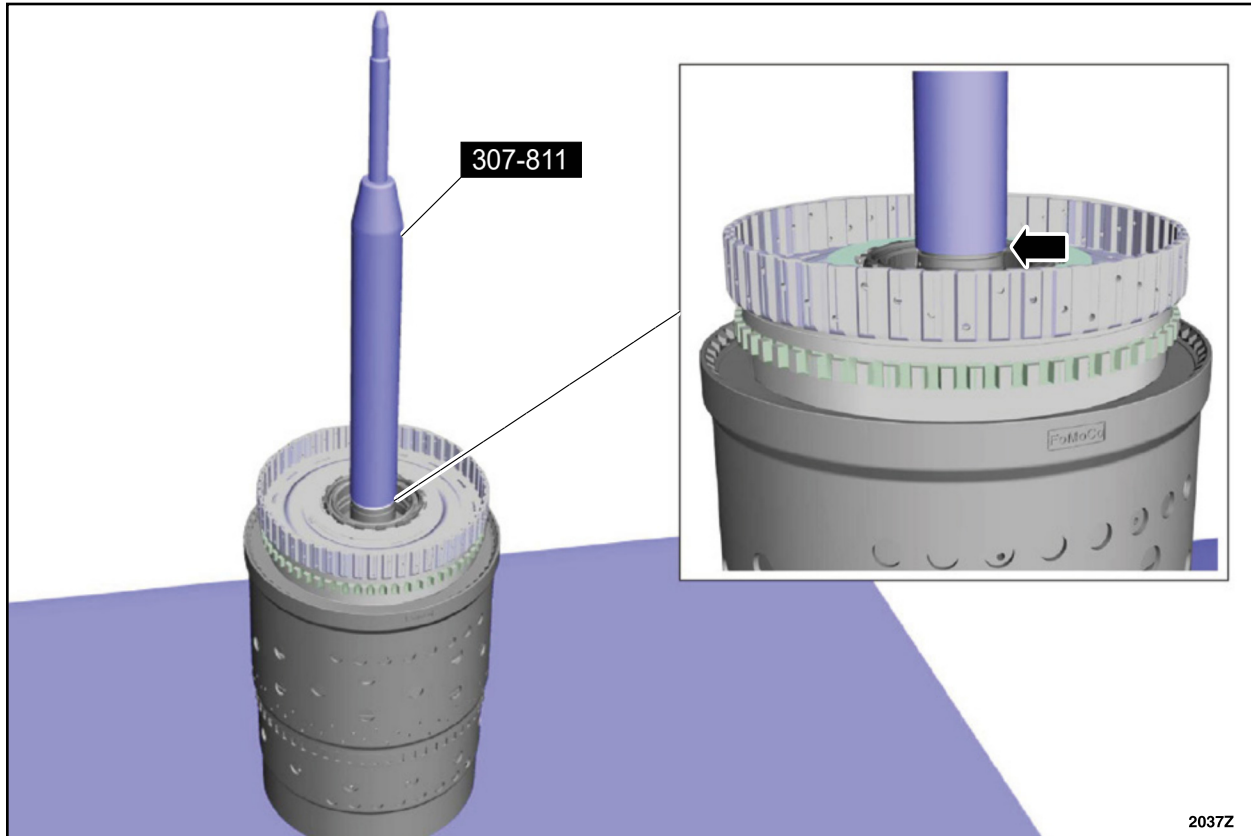

FIGURE 18
21. Install special tool 307-811 and adjust it to align the bottom edge of the tool with the top end of the groove of the Teflon® seal being replaced. See Figure 18.